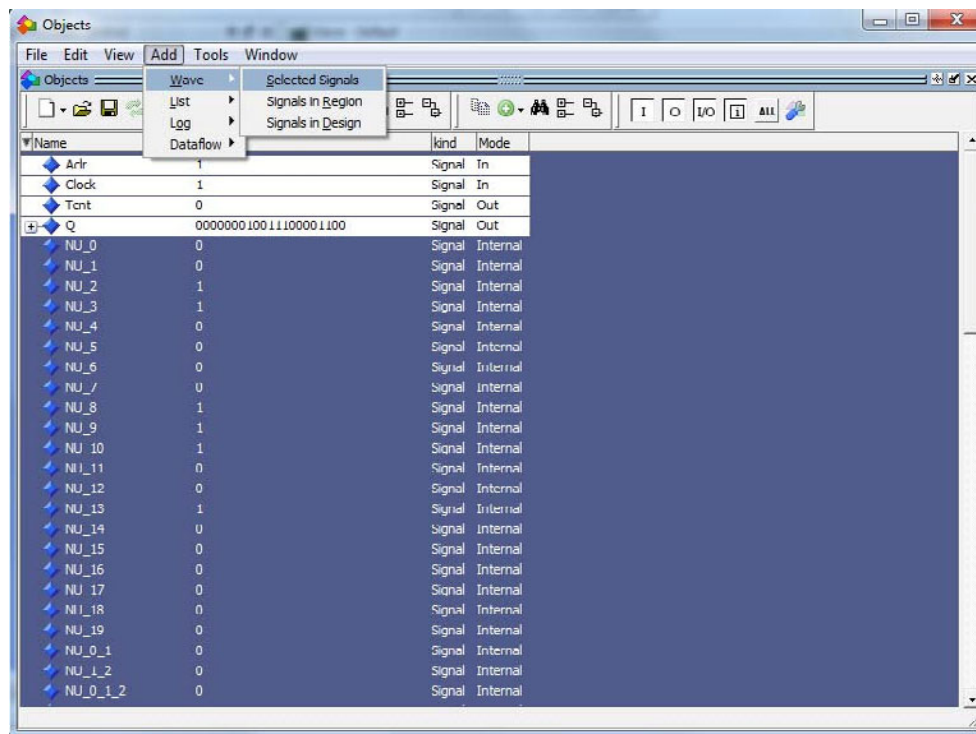

Figure 4-8 • Adding Signals to the Wave Window
10. Add the signals to the Wave window: from the **ModelSim** menu, choose **Add > Wave > Selected Signals** (Figure 4-8).
14. Observe the operation of the counters to confirm the design is working. Use the zoom buttons to zoom in and out as necessary (Figure 4-8).